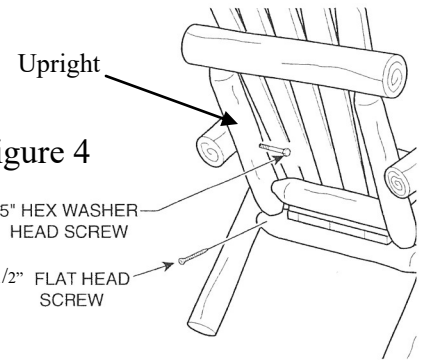
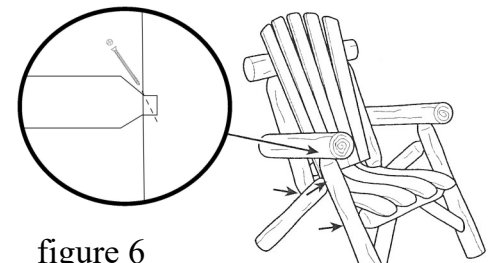

figure 4
figure 6
STEP 4 Set chair in upright position on a level surface and when legs are in proper position, bring ARM in against UPRIGHT. Tighten the preinstalled lag screws into the pilot hole in the arm with a wrench or socket. Secure doweled joints in place with 2 1/2" screws perpendicular to the doweled ends as shown in figure 4 and figure 6. Repeat on other side.
STEP 6 Set unit on a level surface and tighten down all lag screws firmly to secure unit. Secure all doweled joints in place with screws perpendicular to the doweled ends as shown in figure 6.